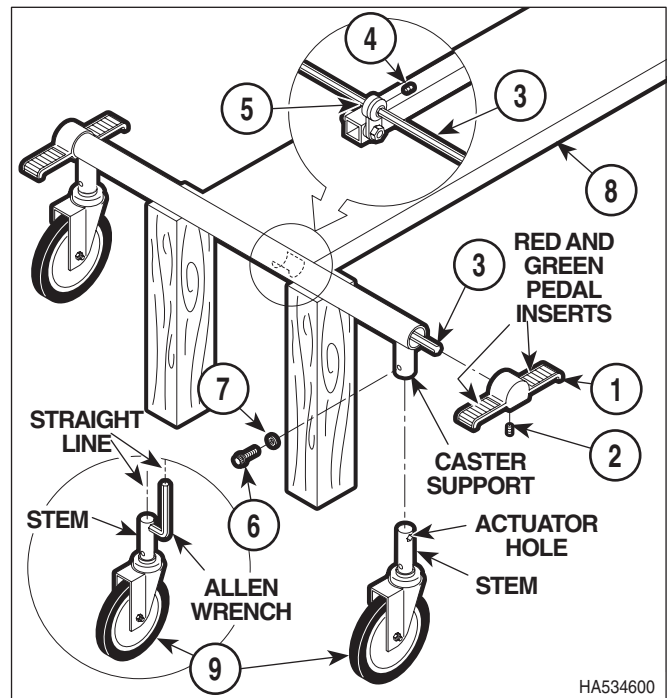

Figure 4-25. Caster Removal / Installation
- (1) Depress a caster control pedal (1, Figure 4-25) to the brake position.
- (2) Elevate end of stretcher from which caster is being removed at least 6 in. (15.2 cm) and secure with blocks.
- (3) Loosen setscrew (2) and remove caster control pedal (1) from actuator bar (3).